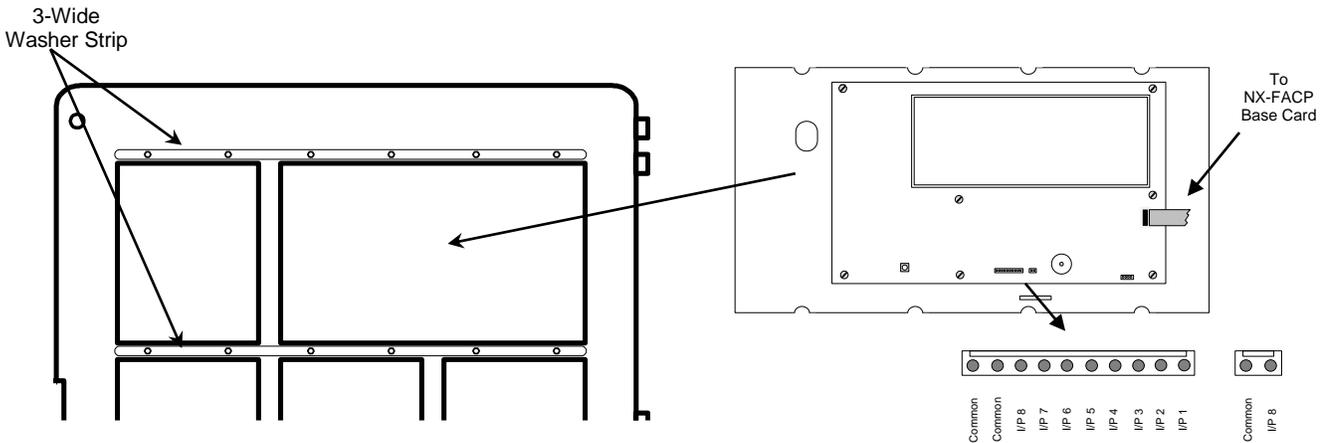

Figure 24 - NX-ACS-DSP Installation and Inputs
To install the NX-ACS-DSP alphanumeric graphical display remove the nuts and washers holding the two (2) upper washer strips (3-wide washer strip) in place (see figure 24). Remove the washer strip and install the NX-ACS-DSP in the double aperture opening and replace removed washer strips with the removed nuts and washers (see figure 24).
On the back of the NX-ACS-DSP alphanumeric graphical display is a 10-pin and 2-pin (duplicated common and input 8) header, providing eight (8) programmable switch inputs, which can be utilized for special application monitoring and control functions. Switch inputs can be programmed to monitor normally open or normal closed contacts depending upon installation need (see figure 24).
- ⊘ Unplug the flat ribbon cable attached to the NX-FACP base card and remove the seven (7) screws holding the NX-ACS-DSP alphanumeric graphical display to its front metal faceplate (see figure 24).